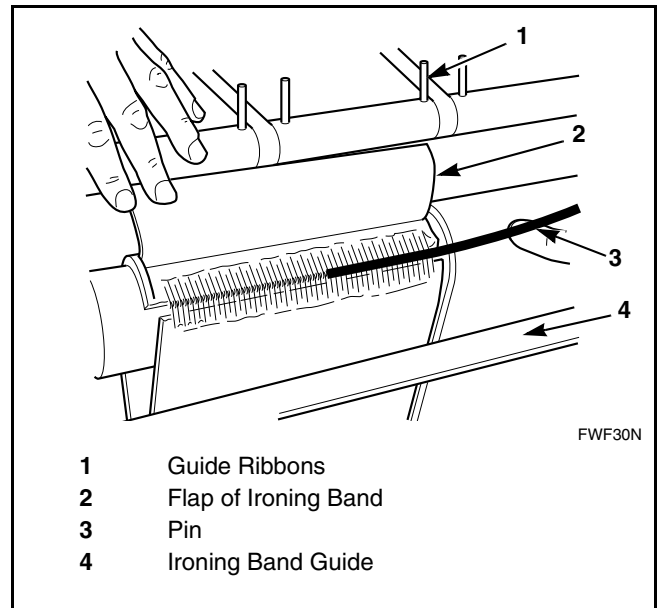

Figure 11
- e. Remove pin from teeth of ironing band. Refer to *Figure 11*.
5. Remove guide ribbons by removing staples. Refer to *Figure 11*.